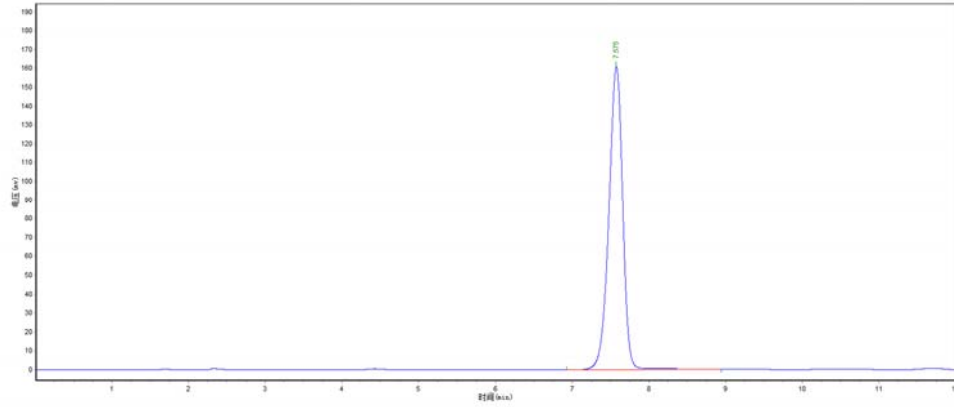

Fig. 1 Typical HPLC-Chromatogram of Mancozeb standard
2.1 HPLC. Use the reversed phase HPLC method below. The relative retention time of the mancozeb peak in the sample solution should not differ by more than 1.5% from that of the calibration solution (Fig. 1 and 2).